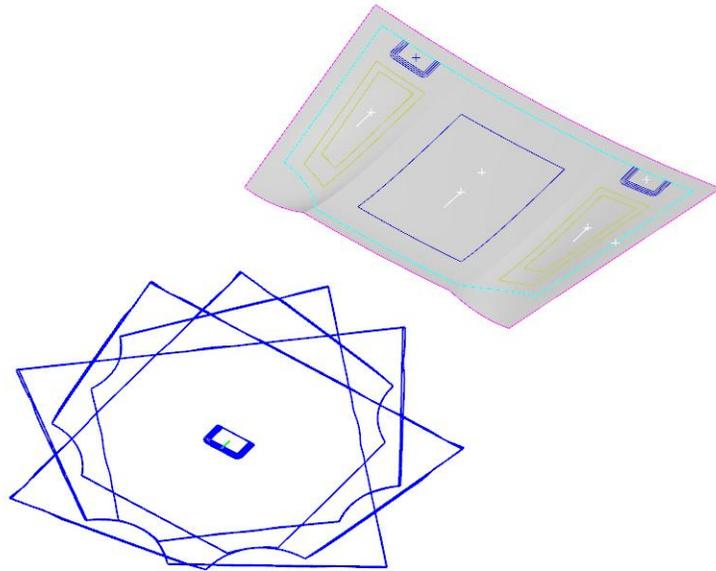

Figure 8–18
9. Click  to save the plies. The model displays as shown in Figure 8–18.